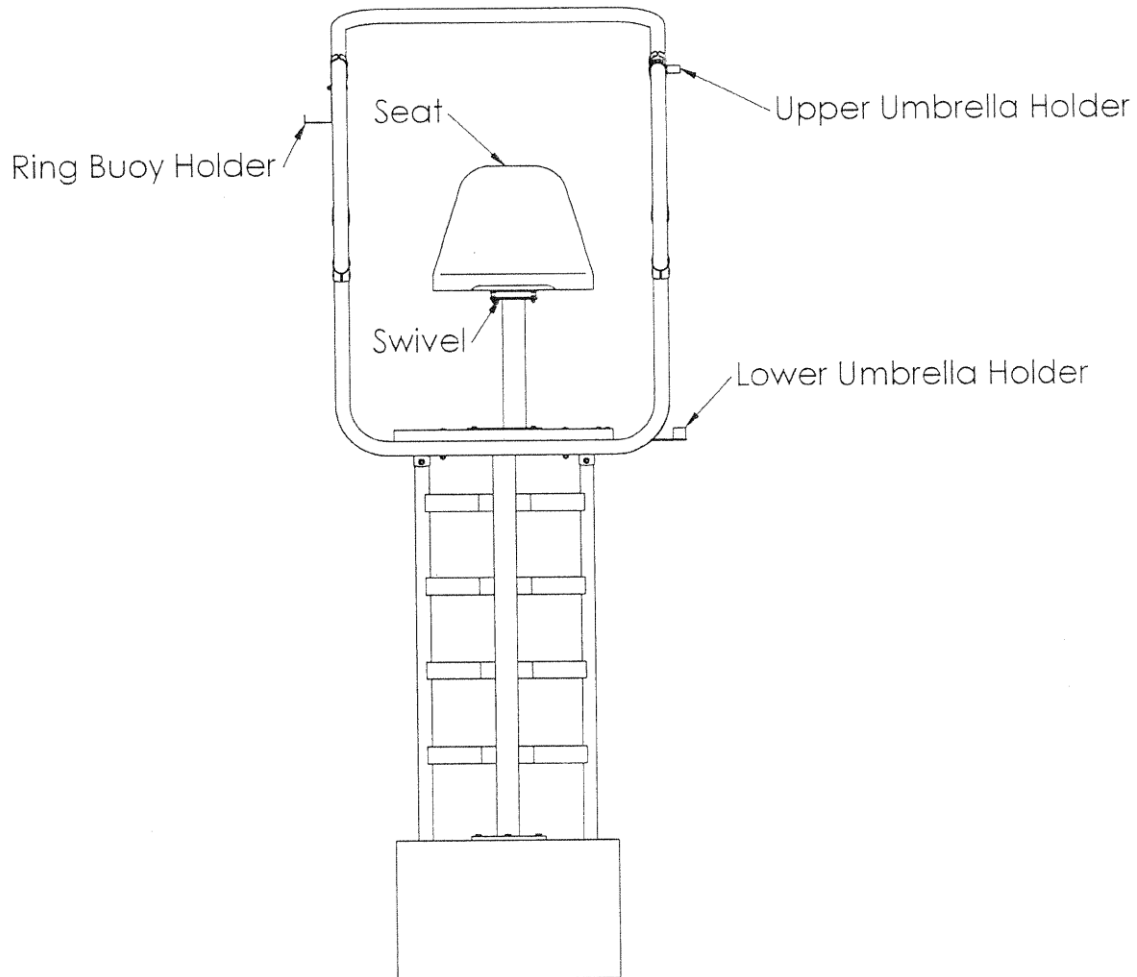

Figure 7
Step 6: Attach the lower umbrella holder to the footboard using two 3/8" x 2 1/2" button head bolts, 3/8" lock washer, 3/8" flat washers, and 3/8" hex nuts. Attach the swivel to the small pedestal using four 1/4" x 1 1/4" hex head bolts, 1/4" flat washers, and 1/4" nylock nuts. Attach the ring buoy holder to the left side of the upper handrail using one 3/8" x 2 1/2" button head bolt. See figure 7.